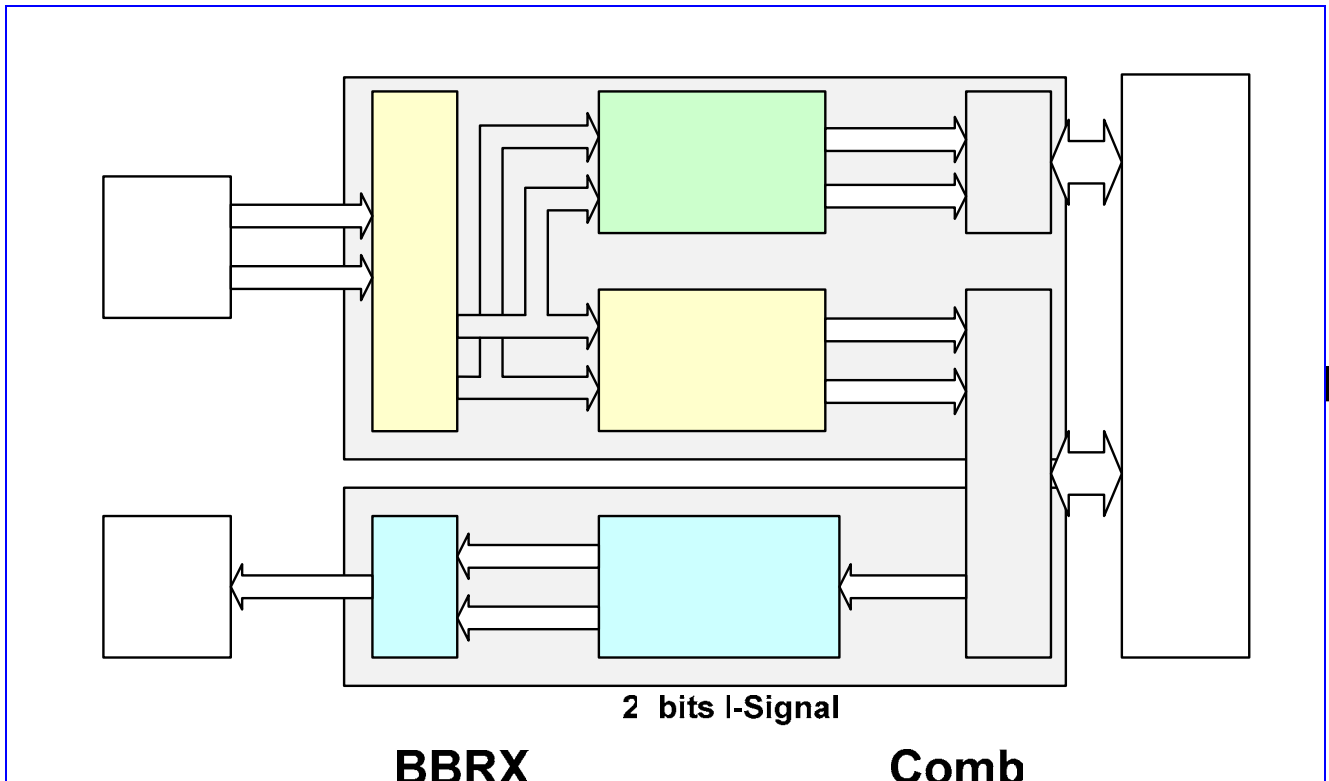

Figure 78 Block Diagram Of Baseband Front End
Baseband Front End is a modem interface between TX/RX mixed-signal modules and digital signal processor (DSP). We can divide this block into two parts (see **Figure 78**). The first is the uplink (transmitting) path, which converts bit-stream from DSP into digital in-phase (I) and quadrature (Q) signals for TX mixed-signal module. The second part is the downlink (receiving) path, which receives digital in-phase (I) and quadrature (Q) signals from RX mixed-signal module, performs FIR filtering and then sends results to DSP. **Figure 78** illustrates interconnection around Baseband Front End. In the figure the shadowed blocks compose Baseband Front End.